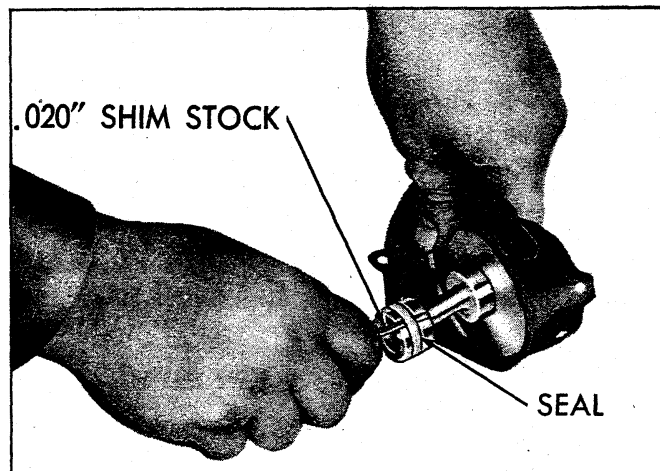

Fig. 19 - Installing Seal
4. Install new seals using a piece of .020" shim stock, (fig. 19). Make sure shim stock has no sharp edges that may cut seal. Do not stretch seal more than